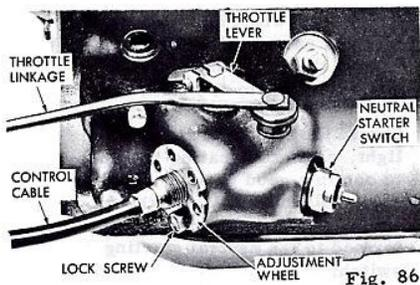

Fig. 86
2. Remove the control cable adjustment wheel lock screw (Fig. 86).